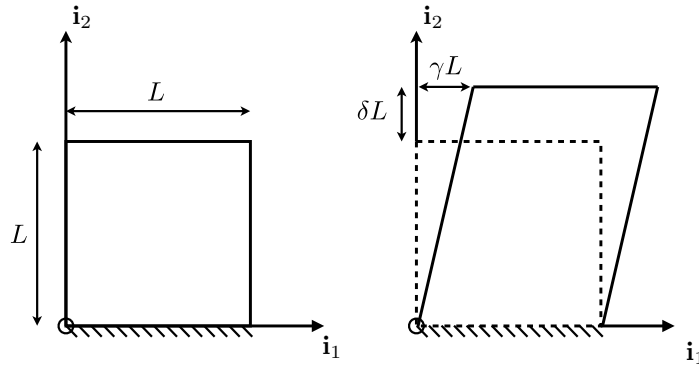

Figure 2: Deformation of the cube.
A cube of material of dimensions  $L \times L \times L$  is fixed to a rigid wall on its bottom side. As depicted in Figure 2, the top face of the cube is displaced in the  $\mathbf{i}_2$  direction a distance  $\delta L$ , and then in the  $\mathbf{i}_1$  direction a distance  $\gamma L$ . There are no displacement in the  $\mathbf{i}_3$  direction.
1. Write the components of the displacement field,  $u_1$ ,  $u_2$ , and  $u_3$ , using the origin indicated on Figure 2.